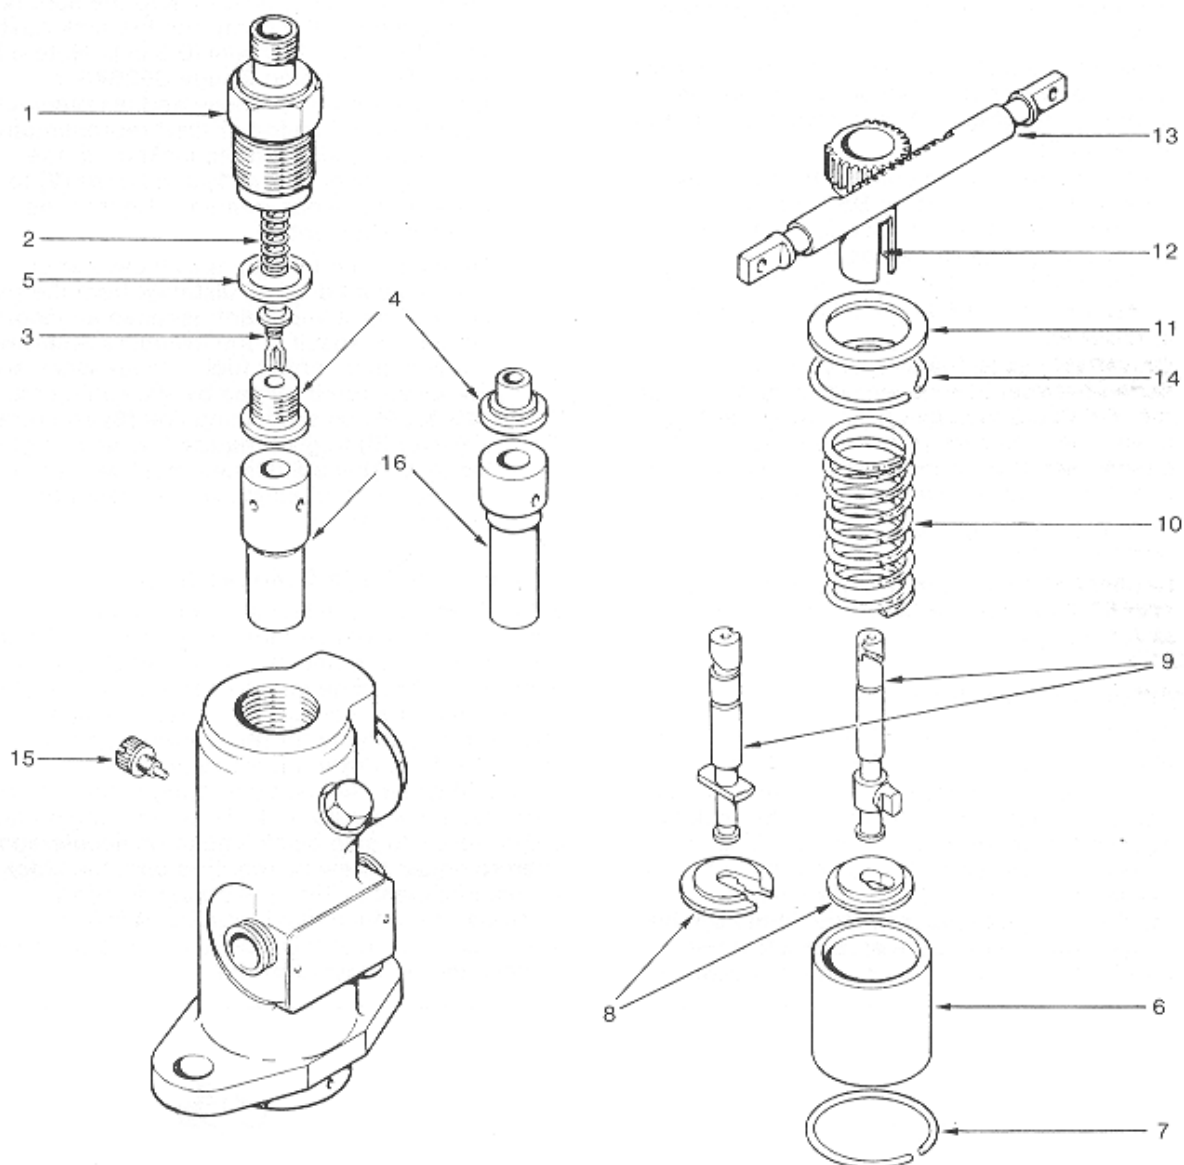
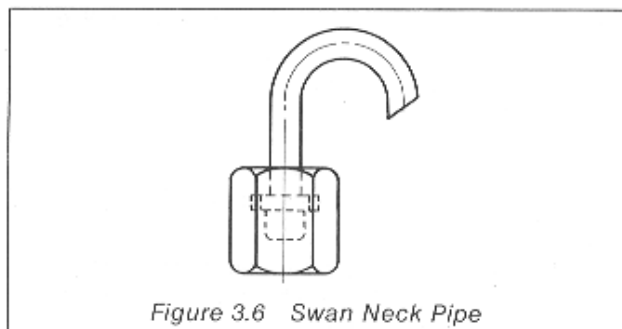
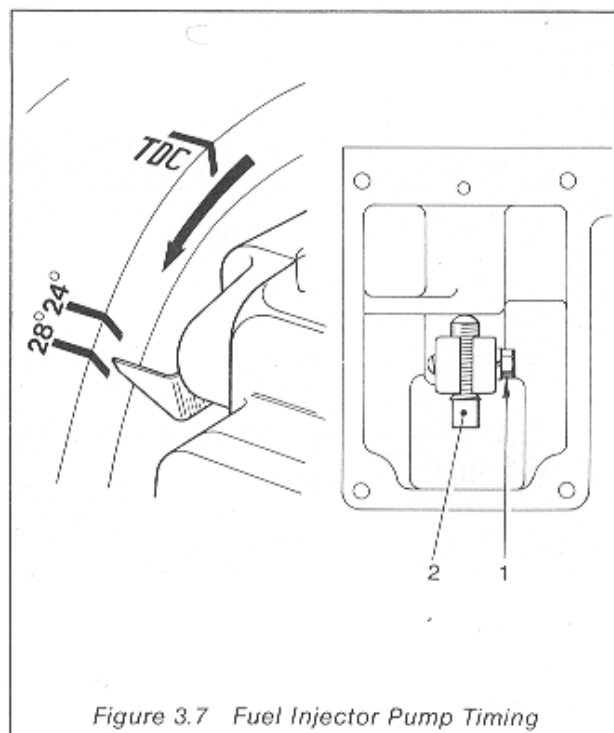

Figure 3.4 Fuel Injection Pump Exploded View
Figure 3.6 Swan Neck Pipe
Figure 3.7 Fuel Injector Pump Timing
### Dismantling (Figure 3.4)
**Maintenance (Figure 3.4)****CAUTION**
- (1) Clean all parts in clean fuel.
- (2) Check that the delivery valve joint is not cracked or scored.
- (3) Check the valve seat for damage.
- (4) Make sure the rack is free throughout its travel.
**Assembly (Figure 3.4)****3.11** Carry out the following procedure:**Note**
**Timing (Figure 3.7)**
- (3) Remove the pump-to-injector pipe and unscrew the union body (Figure 3.4 (1)) from the pump. Lift out the delivery valve and place in clean fuel. Do not disturb the delivery valve seat. Replace the union body, leaving out the delivery valve. Fit a spill swan neck pipe (Figure 3.6) to the pump union body.
- (4) Turn the engine flywheel until it is a quarter of a turn before TDC with the appropriate piston on the compression stroke.
- (5) With reference to Figure 3.7 slacken the pump rocker pinch bolt (1). Unscrew the adjusting screw (2) until the pump is at the bottom of its stroke. Allow the fuel to flow from the pump. If a fuel lift pump is fitted fuel will not flow unless the feed pump lever is operated.
- (6) Turn the flywheel until the appropriate timing mark (refer to Table 3.1) preceding the TDC mark is opposite the pointer.